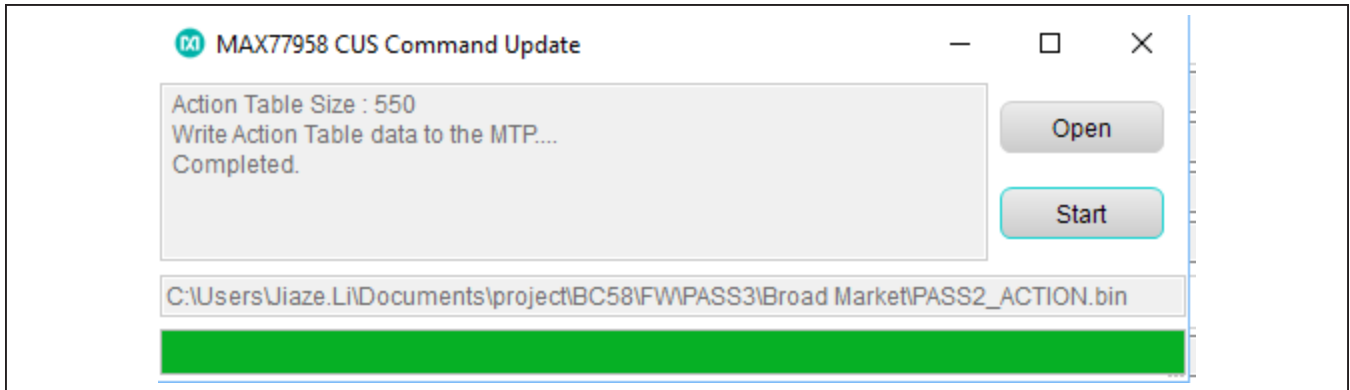

Figure 11. Customization Script Update Process Complete
- 5) Figure 11 shows the customization script update process complete.